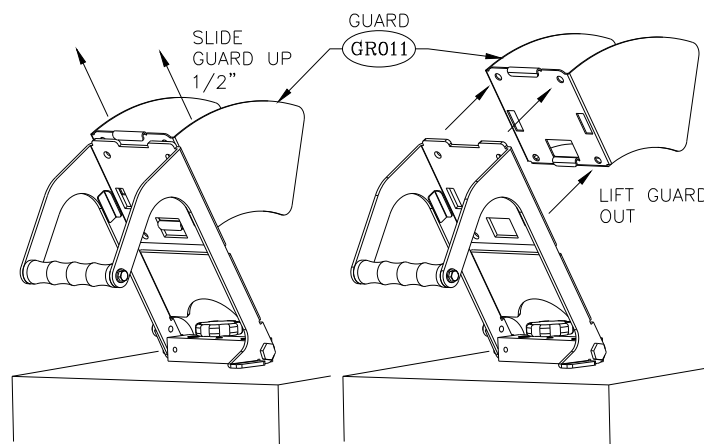

FIGURE 5
- C) Slide Guard GR011 up approx. ½" then lift Guard straight out away from Pusher Frame. See figure 5.